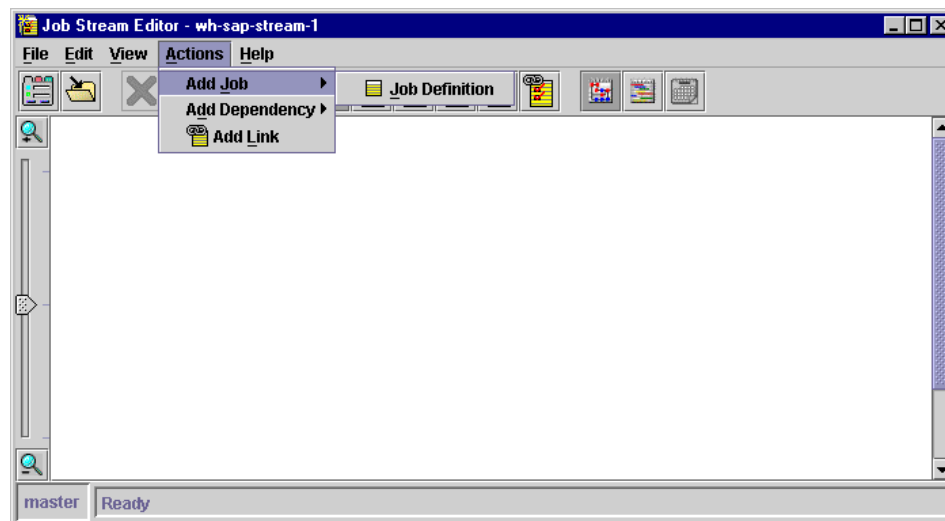

Figure 116. Adding jobs into an empty job stream
- a. In the Job Stream Editor, select the **Actions > Add Job > Job Definition** menu. After double-clicking with the left mouse button in the white area of the window, the Properties - Job Definition window, shown in Figure 116, is displayed.